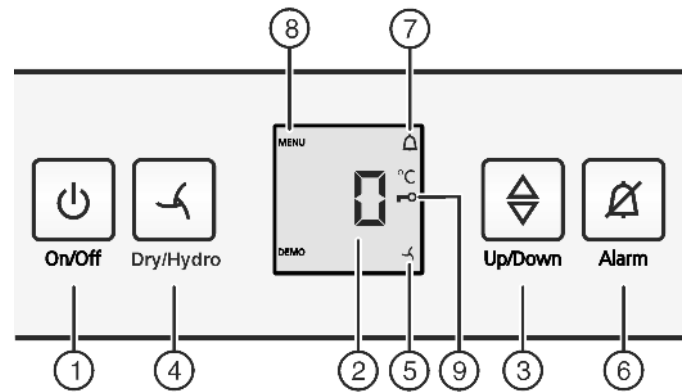

Fig. 2
- ▶ Press On/Off button Fig. 2 (1).
- ▶ To activate setting mode: press the Dry/Hydro button Fig. 2 (4) for approx. 6 seconds.
- ▷ The menu symbol Fig. 2 (8) shines.
- ▶ Briefly press the Dry/Hydro button Fig. 2 (4) to confirm. When **c!** is indicated in the display:
- ▶ Briefly press the Dry/Hydro button Fig. 2 (4) to activate the child lock.
- ▷ The child lock symbol Fig. 2 (9) shines. **c** flashes in the display.
- ▶ Briefly press the Dry/Hydro button *Fig. 2 (4)* to deactivate the child lock.
- ▷ The child lock symbol *Fig. 2 (9)* goes out. **c** flashes in the display.
- ▶ To deactivate the setting mode: Press the On/Off button *Fig. 2 (1)*.
- ▶ Press alarm button *Fig. 2 (6)*.